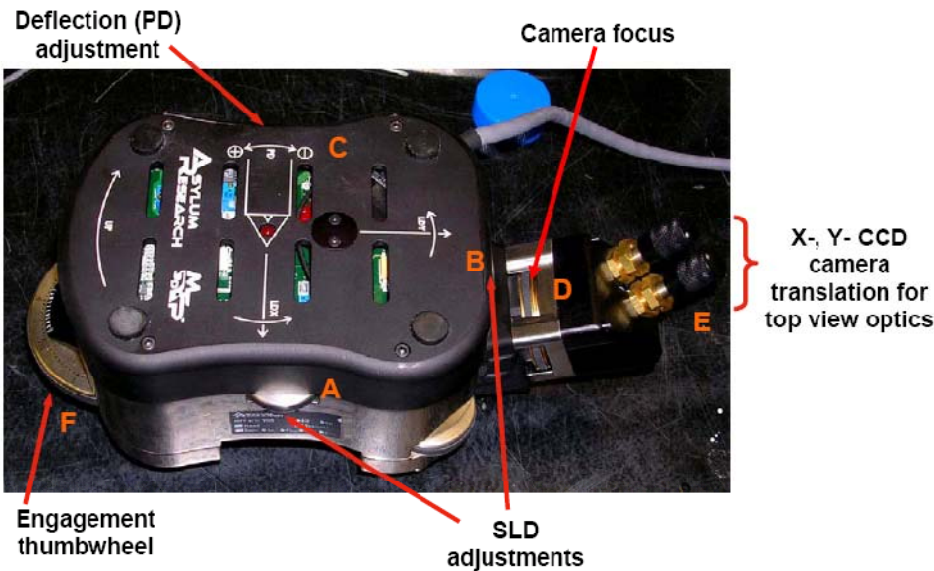

Figure 3. AFM head with the various alignment thumbwheels labeled.
- b. Using the two SLD adjustments dials on the head (see Figure 3), find the SLD spot and make sure that it is on the tip. (You may need to adjust the x or y position of the CCD camera with the two knobs at the very back of the head to bring the tip into the camera's view.) See Figure 4 for the appropriate position of the SLD spot on the cantilever.
- 8) Zero the 'Deflection' voltage signal in the S&D meter. The top of the head is labeled to tell you what way to go to see a positive or negative change (see Figure 3; label 'C').